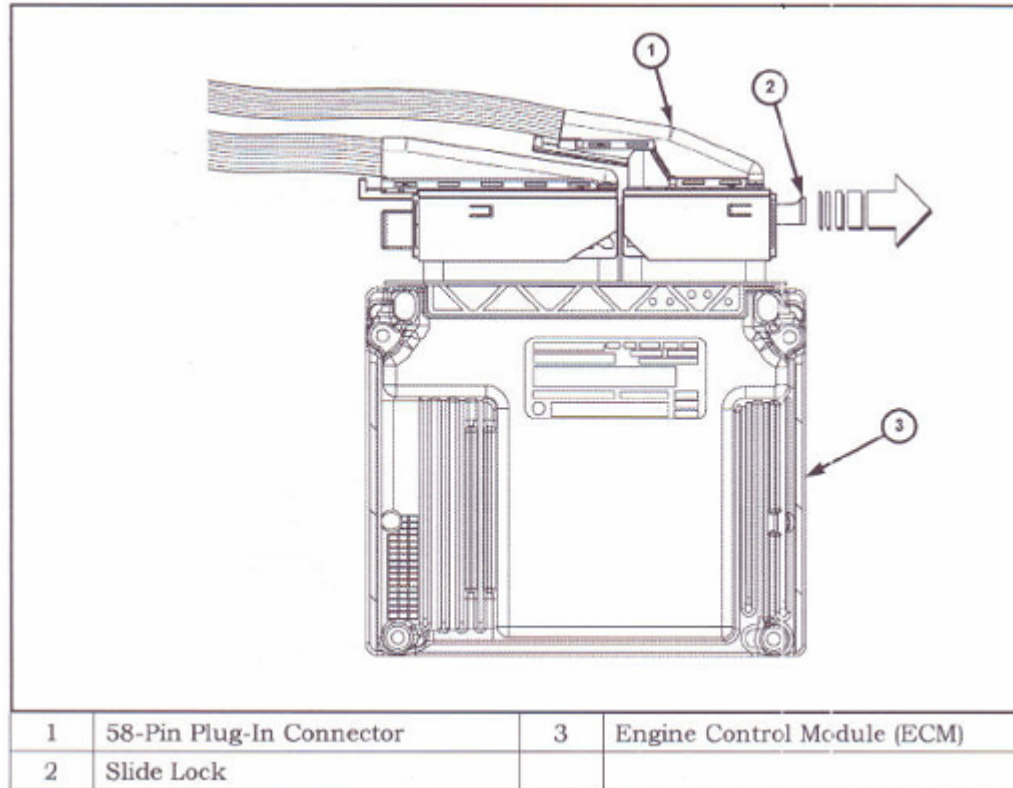

Figure 2. Vehicle Harness 58-Pin Plug-In Connector
2. Select Configuration in the Miscellaneous Functions screen. When asked, select ADR Installed (figure 2).